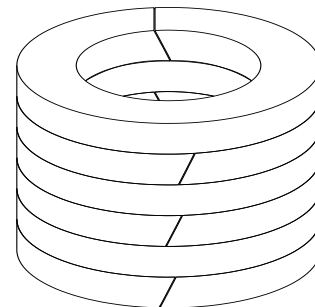

Figure 6 Packing cut location
- c. Each packing ring's cutting location arrangement is according to Figure 6, use the same method to install the rest of the packing rings, one ring at a time, and make sure each ring is installed correctly before installing the next one, keep packing ring clean during installation, and not mix any foreign materials.